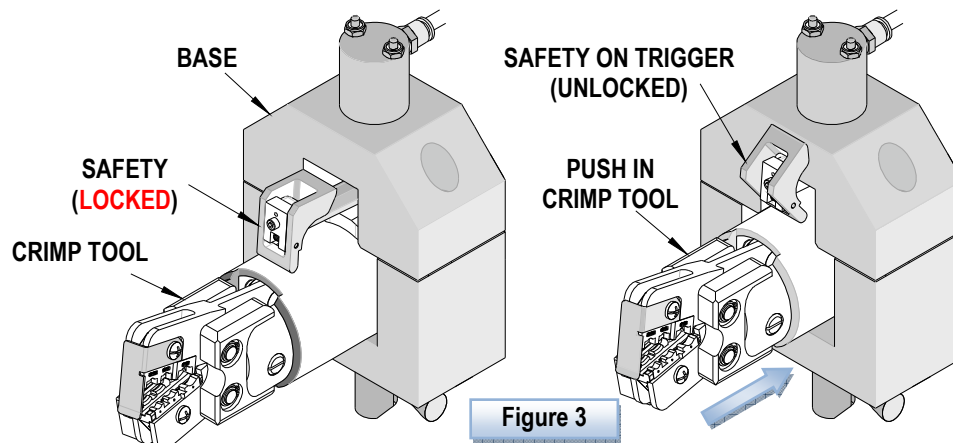

Figure 3
1. Slide the Air Powered Crimp Tool into the base. The safety will bump against the base top and the trigger on the crimp tool will unlock. See Figure 3.